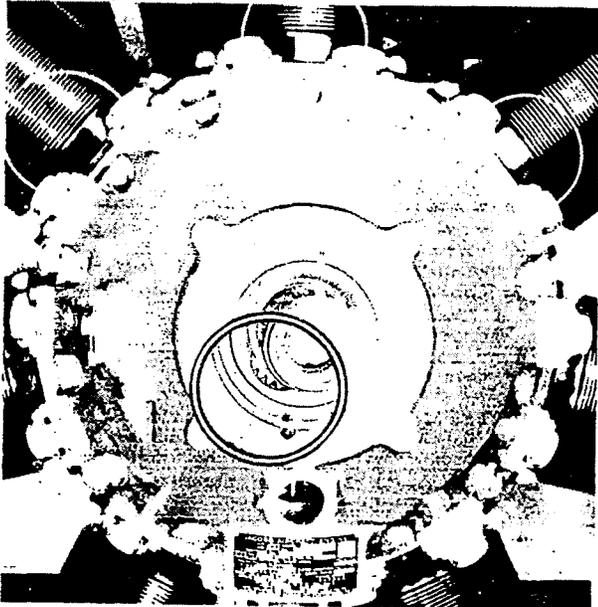

Figure 41 - Timing Merks on Timing Gear and Cam Drive Gear
h. Place front case in position and turn cam pinion gear with fingers through timing hole until the tooth with the punch mark is between the teeth that are punch marked on the timing gear. Refer to Figure 41.